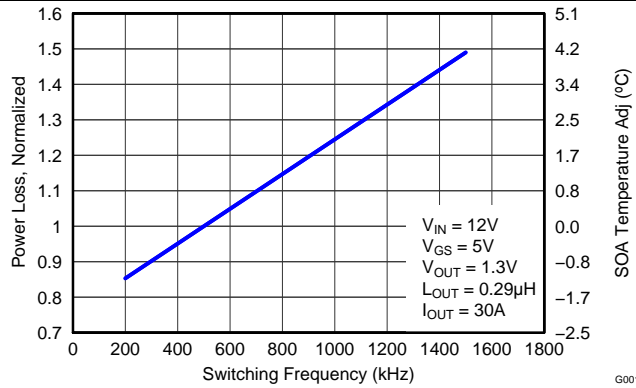

Figure 5. Normalized Power Loss vs Switching Frequency
- Normalized Power Loss for switching frequency ≈ 1.15 (Figure 5)
- SOA adjustment for switching frequency $\approx 1.2^\circ\text{C}$ (Figure 5)